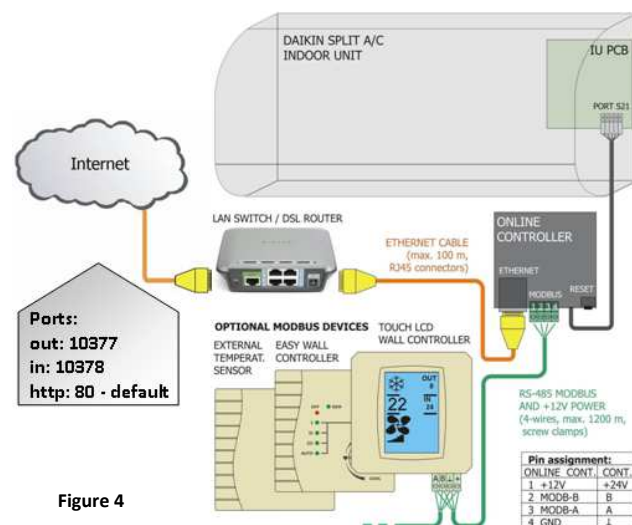

Figure 4
3.3. Wiring connection (See Figure 4)